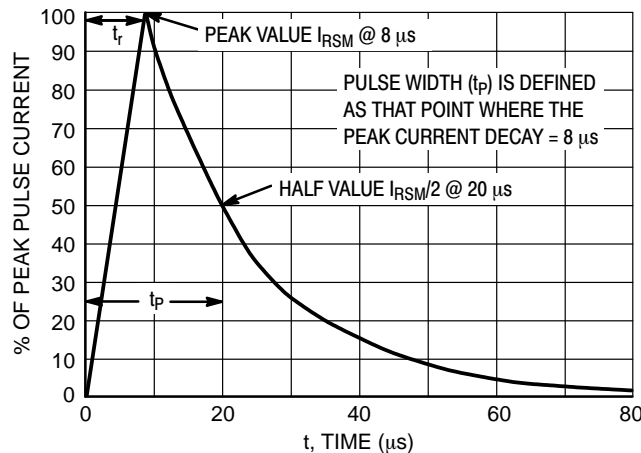

Figure 15. 8 x 20 μs Pulse Waveform
1. Surge current waveform per Figure 15.